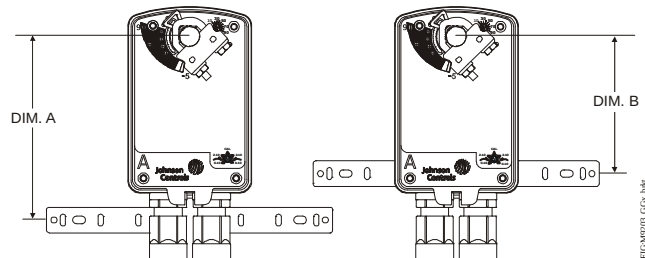

Figure 5: Positioning the Anti-Rotation Bracket
1. See the dimensions in Figure 5 and Table 2 to ensure the correct positioning of the anti-rotation bracket.
- Mark or drill mounting holes in the damper frame or duct using the anti-rotation bracket as a guide (based on the measurements obtained in Table 2 and Figure 5).